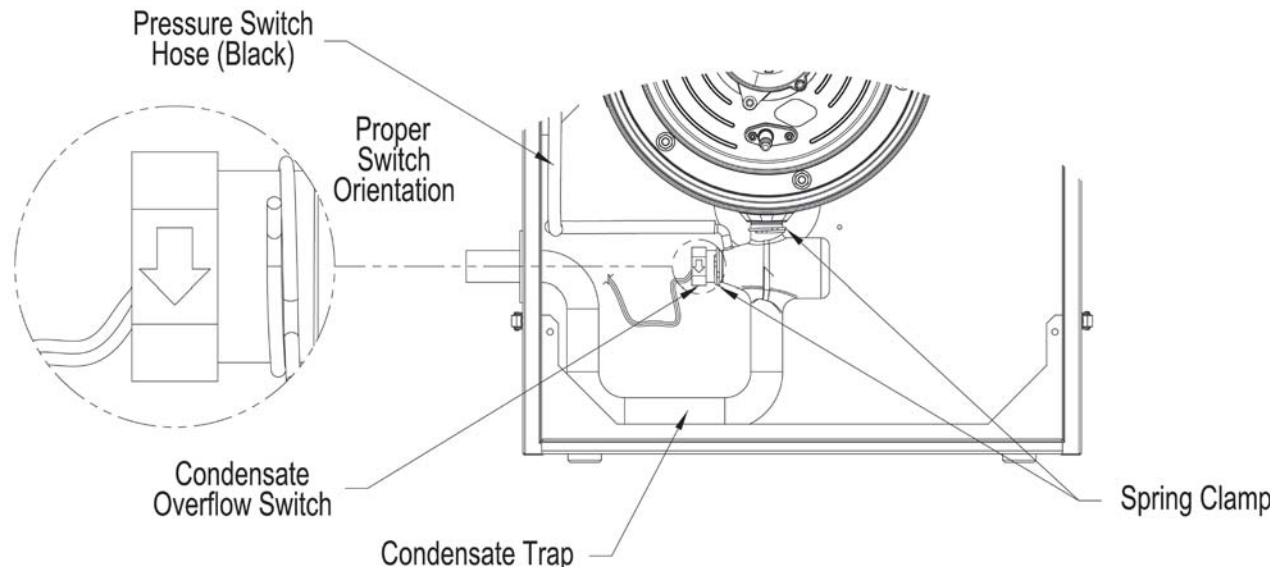

Figure 40: Condensate Overflow Switch Orientation
- e. Apply silicon sealant to the replacement switch threads and install the switch into the trap body making sure it is properly oriented - the arrow molded into the switch hex end side must face down for proper switch operation. See Figure 40 "Condensate Overflow Switch Orientation" for details.
- j. Insure that fresh silicon sealant is applied to the overflow switch threads and the switch is properly oriented relative to the trap body - the arrow molded into the switch hex side end must face down for proper switch operation. See Figure 40 “Condensate Overflow Switch Orientation” for details.